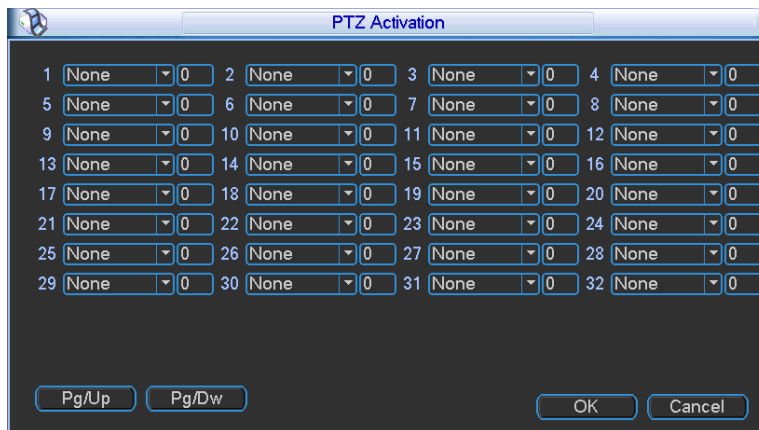
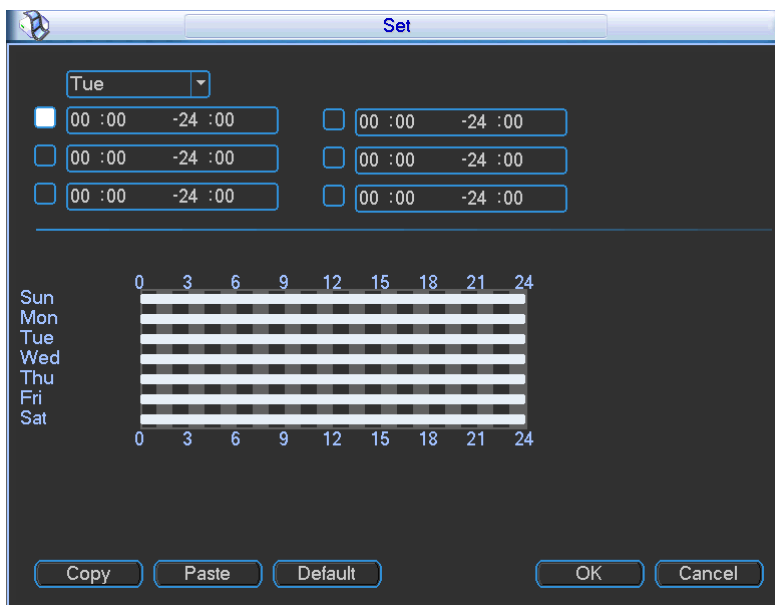

Figure 3-53
Figure 3-54
- In Figure 3-53, click “select” button, you can see an interface is shown as in Figure 3-54. Here you can set the activation operation such as preset tour, pattern and enable.